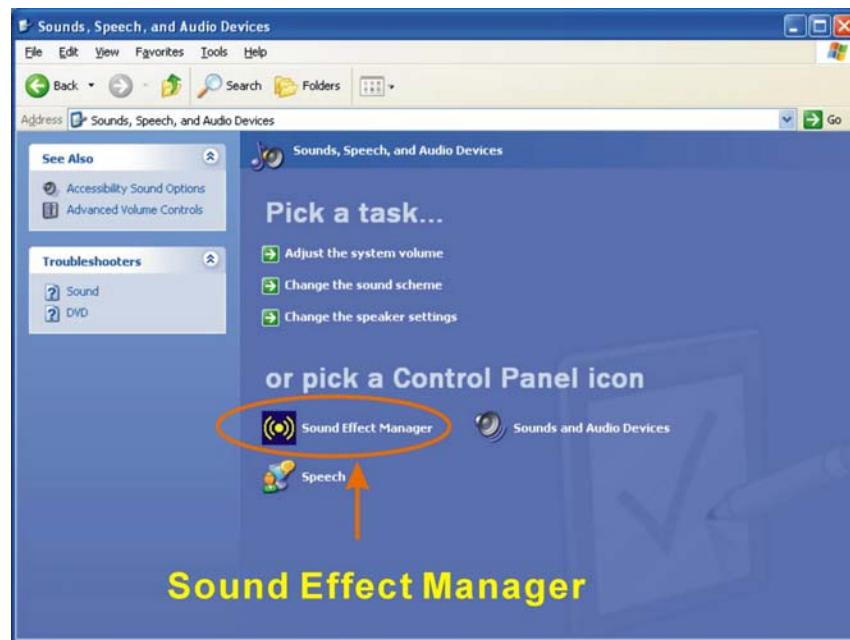

Figure D-3: Sound Effect Manager Icon [Control Panel]
- The **Sound Effect Manager** icon in the **Control Panel** (**Figure D-3**).